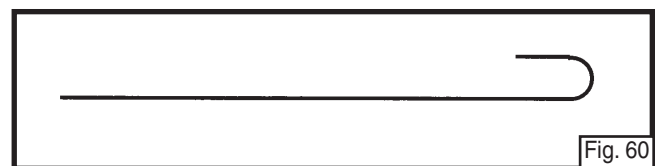

Fig. 60
3. To remove the above obstructions, use an accessory flexible venturi brush or bend a small hook on one end of a 20-inch-long flexible wire such as the one shown in Fig. 60.